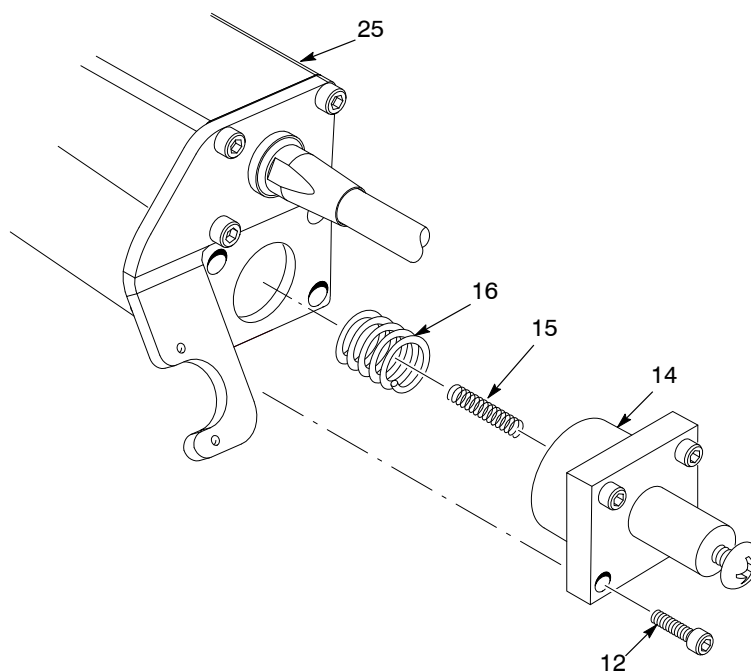

Figure 7-3 Fluid and Piston Return Compression Springs Replacement
5. See Figure 7-3. Remove the four socket screws (12) with a $\frac{5}{32}$ -in. hex to remove the fluid adjuster housing (14).
7. Generously lubricate the piston return compression spring (16), the fluid return spring (15), and the fluid adapter housing bores where the springs will rest inside the fluid adjuster with MagnaLube G or an equivalent PTFE-based lubricant
10. Secure the fluid adjuster housing onto the piston block body (25) by holding it firmly and securing with the four socket screws (12). Tighten the socket screws to 2.27–2.83 N•m (20–25 in.-lb).